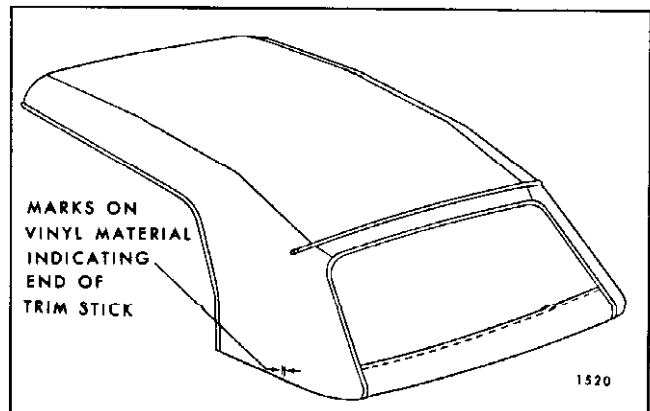

Fig. 13-36 - Marking Top Material
21. Using a pencil, mark both ends of rear and rear quarter trim sticks on vinyl surface of top material as shown in Figure 13-36.